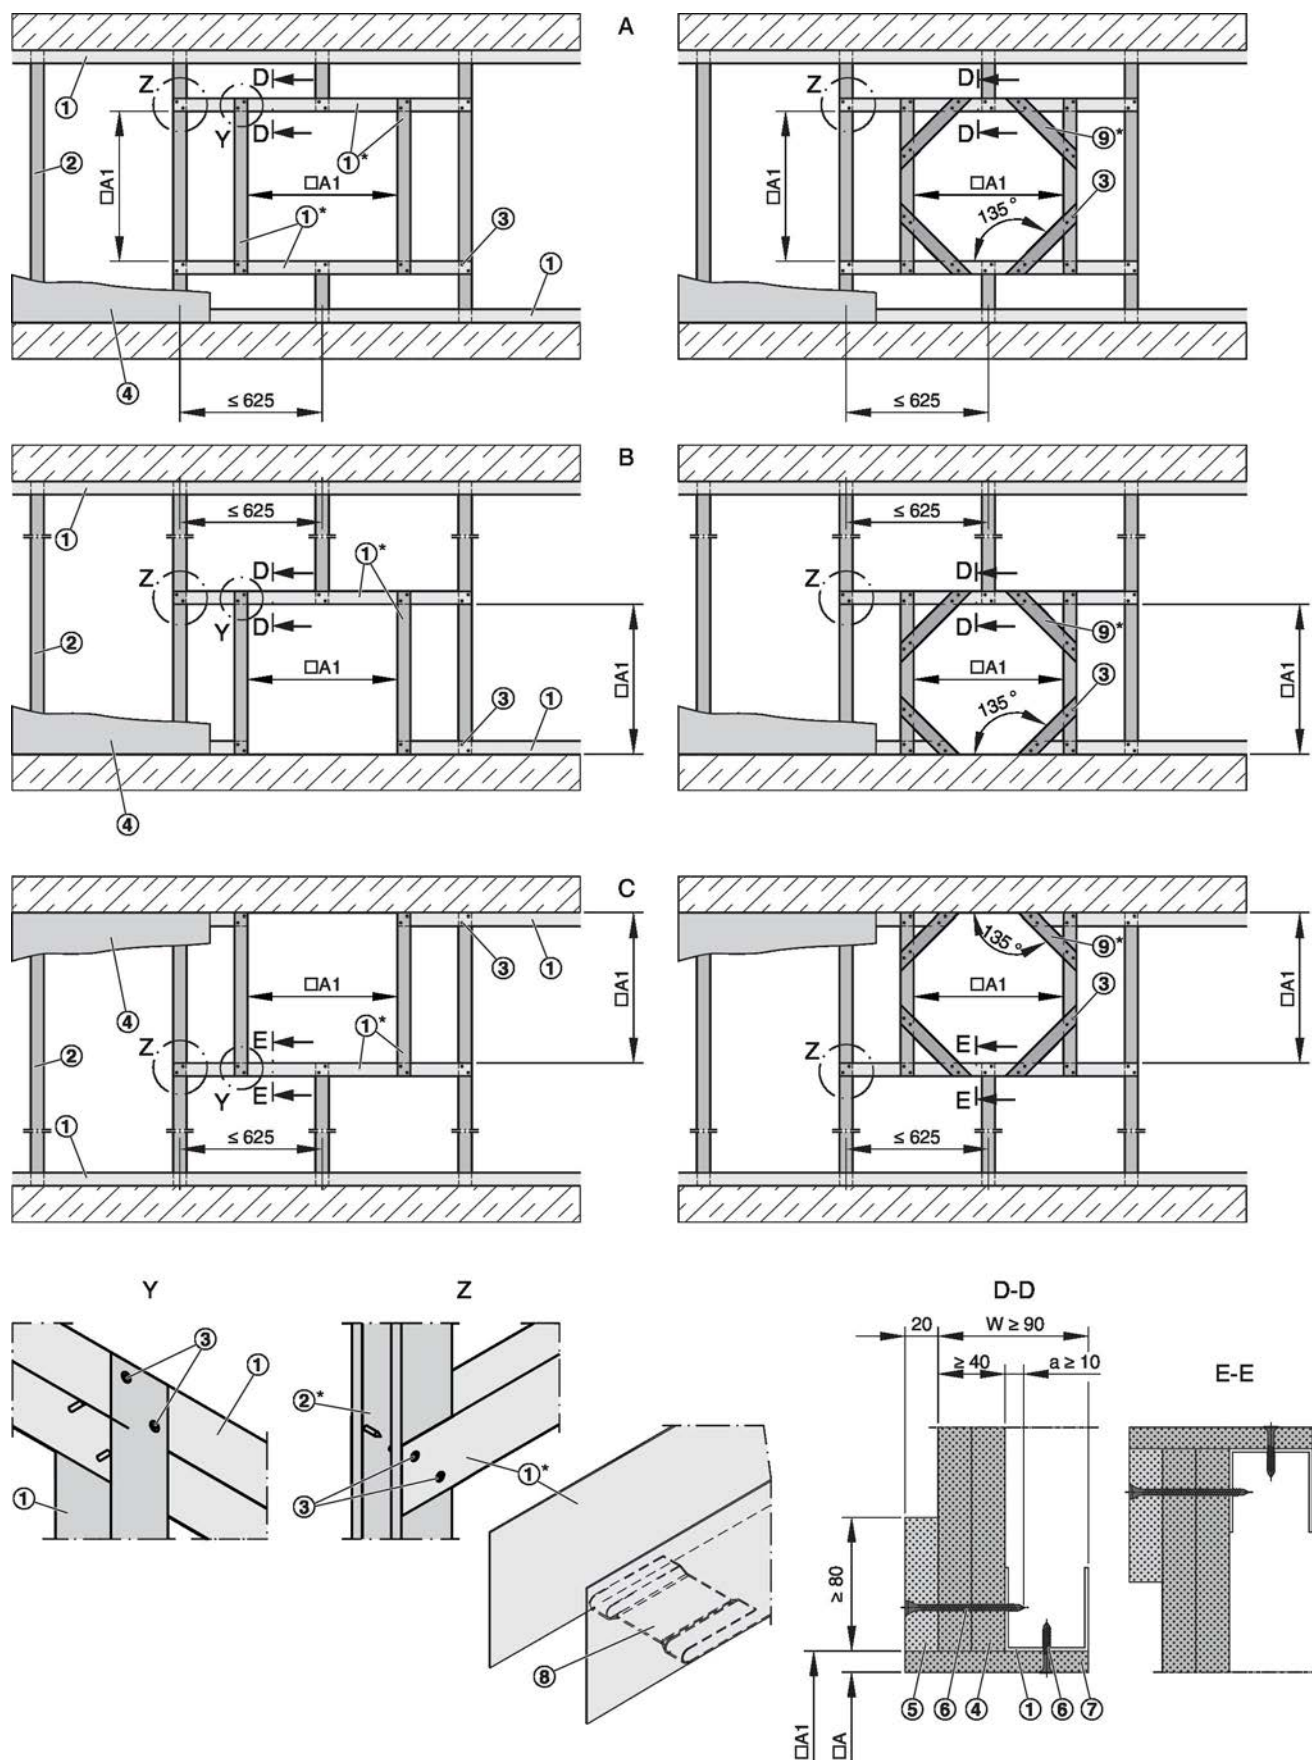

Fig. 40: Shaft walls with metal support structure and cladding on one side
- Erect the shaft wall according to the manufacturer's instructions and create an installation opening, see Fig. 40
- In case of mortar-based installation of fire dampers from nominal size ØDN 450, install four additional sections ⑨ at an angle of 45° in order to reinforce the metal support structure.